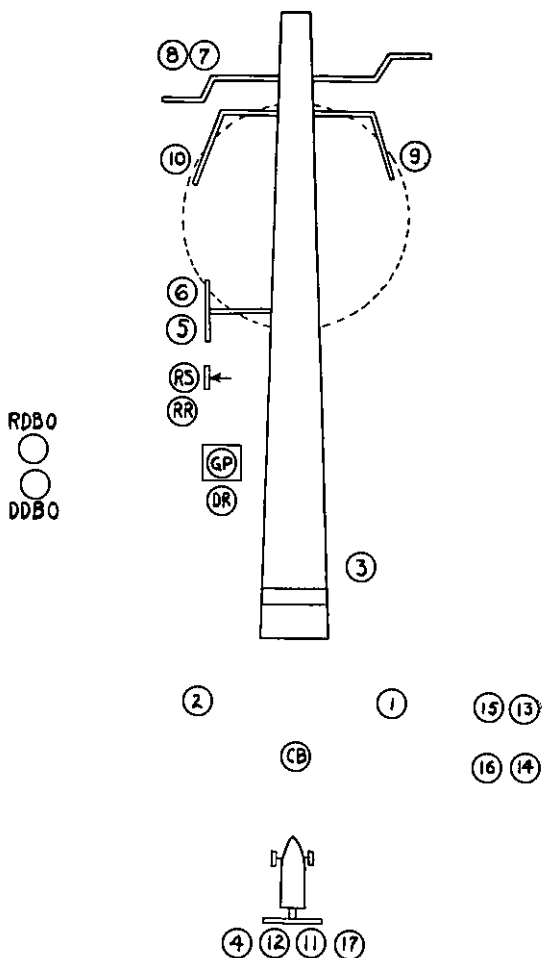

FIGURE 2.—DETAILS, POSTS.
b. He commands: 1. **DETAILS**, 2. **POSTS**, when the section arrives in rear of the emplacement, and supervises the procuring of equipment. After all details have reached their posts (fig. 2), he commands: **EXAMINE GUN**. He then makes an inspection of the gun, carriage, and other matériel, paying special attention to the recoil and counterrecoil systems, firing mechanism, safety devices, and the oiling of the various bearings. He receives the reports of the chief of ammunition and from the various details of the gun squad, and reports to the officer in charge of the emplacement, "Sir, No. _____ in order," or reports defects which he is unable to remedy without delay.